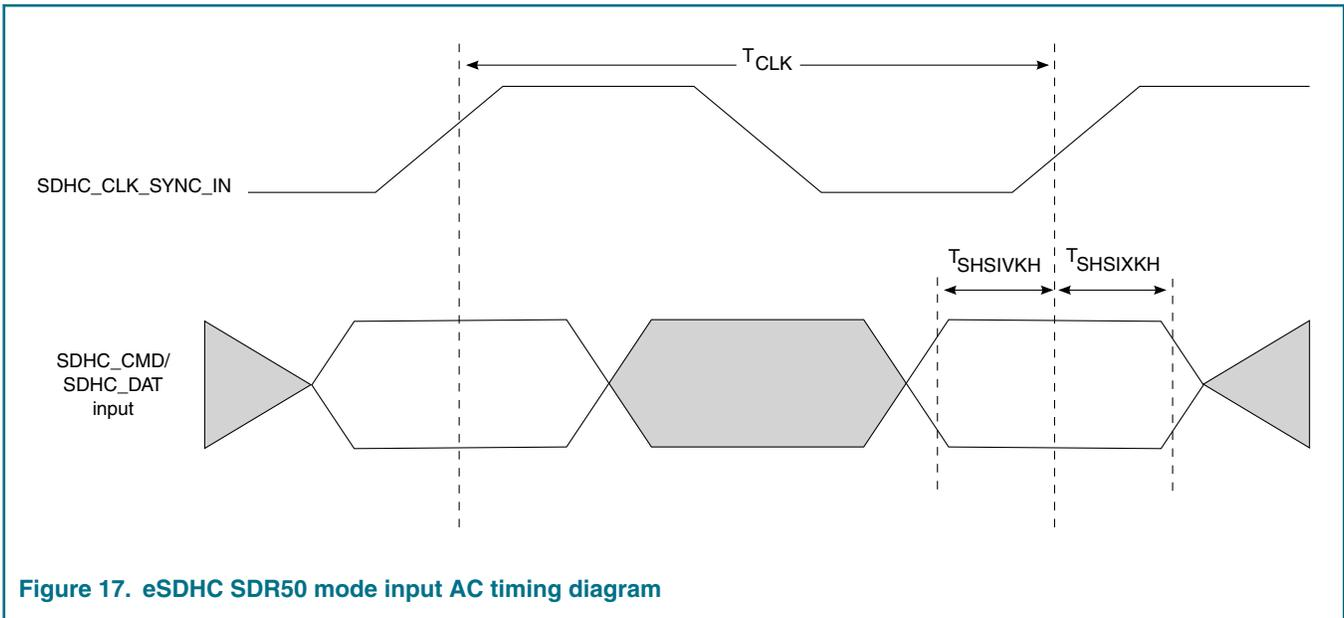
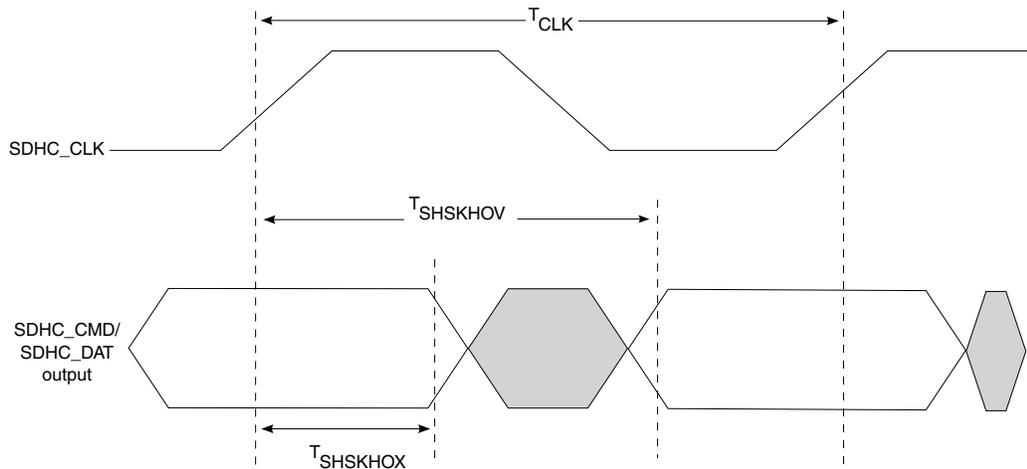

Figure 17. eSDHC SDR50 mode input AC timing diagram
Figure 18. eSDHC SDR50 mode output timing diagram
<p>1. $C_{CARD} \leq 10 \text{ pF}$, (1 card), and $CL = C_{BUS} + C_{HOST} + C_{CARD} \leq 30 \text{ pF}$.</p> <p>2. The symbols used for timing specifications herein follow the pattern of $t_{(\text{first two letters of functional block})(\text{signal})(\text{state}) (\text{reference})(\text{state})}$ for inputs and $t_{(\text{first two letters of functional block})(\text{reference})(\text{state})(\text{signal})(\text{state})}$ for outputs. For example, t_{SHKH0X} symbolizes eSDHC highspeed mode device timing (SH) clock reference (K) going to the high (H) state, with respect to the output (O) reaching the invalid state (X) or output hold time. Note that in general, the clock reference symbol is based on five letters representing the clock of a particular functional. For rise and fall times, the latter convention is used with the appropriate letter: R (R for rise) or F (F for fall).</p> <p>3. See Figure 17. on page 88.</p> <p>4. See Figure 18. on page 89.</p> <p>5. The AC timing specifications are based on the recommended operating conditions with $EVDD /OVDD = 1.8V$, see Recommended Operating Conditions</p>